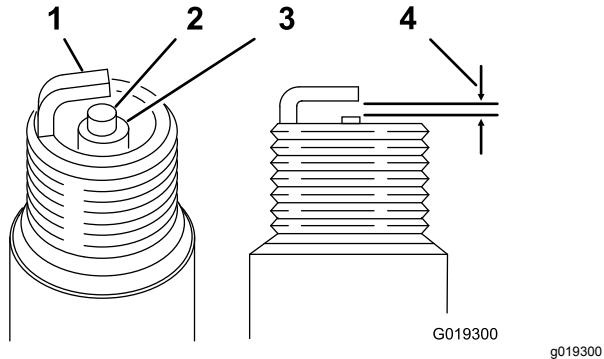

Figure 44
5. For each spark plug, set the gap between the center electrode and the side electrode to 0.76 mm (0.030 inch); refer to Figure 44. Install each of the correctly gapped spark plugs with a gasket seal, and tighten the plugs to 22 N·m (16 ft-lb).